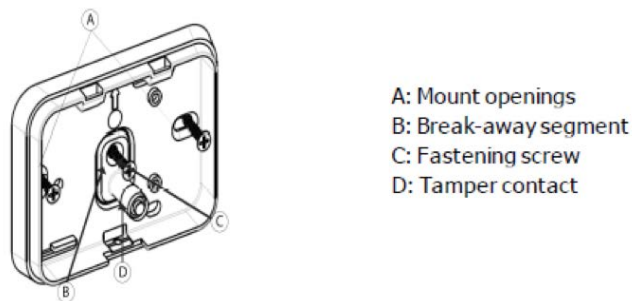

Figure 2 - Mount locations
Fasten the mounting plate to the wall using the provided screws and anchors, through the mount openings (A) and secure the breakaway segment (B) also to the wall to enable tamper detection. As shown in Figure 2.